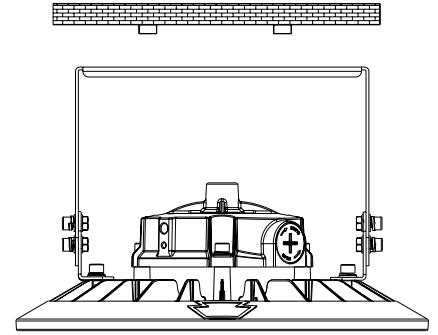
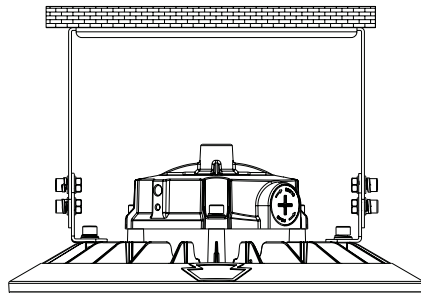

Figure 5
Figure 6
3. Align the bracket hole with screw hole(Figure 5) and push the fixture to one side(Figure 6) and fix it.